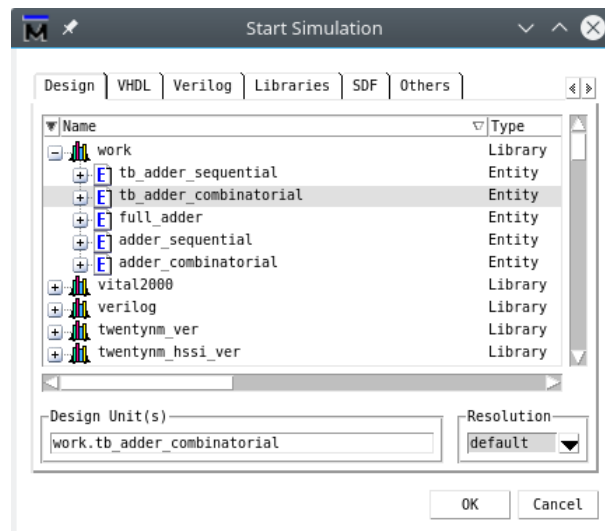

Figure 6: Start simulation
3. Select `work > tb_adder_combinatorial`, then press OK (Figure 6).